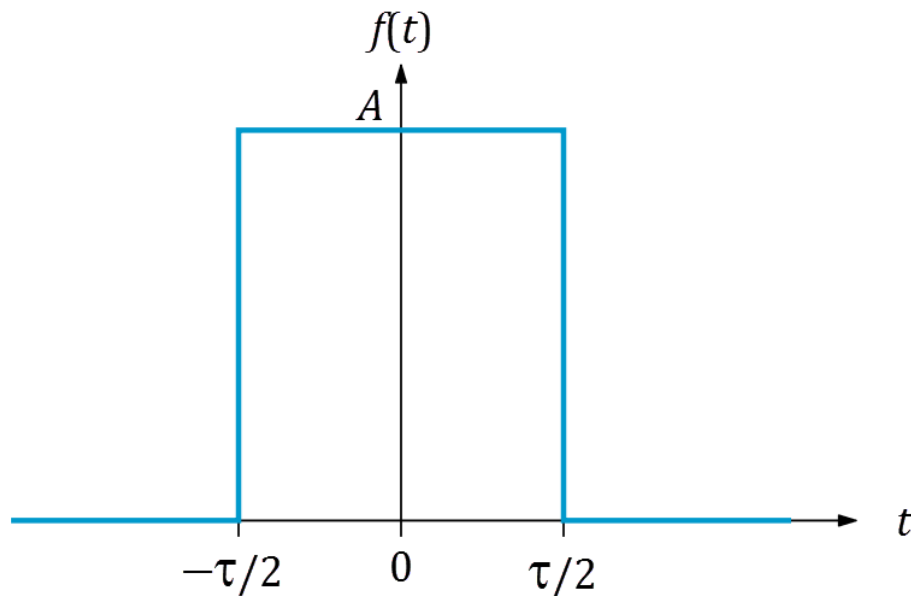

Figure 11.3: Rectangular pulse waveform for Problem 11.3
1. Determine the Fourier transform of the rectangular pulse $f(t)$ shown in Figure 11.3.
1. Create a circuit with a PULSE_VOLTAGE source. Set the “Period” to 100 ms; set the remaining parameters as needed to create the pulse shown in Figure 11.3 on the facing page with $A = 10$. Note that the pulse must shift right to begin at $t = 0$; this shift does not affect the amplitude spectrum.
- (b) Create the rectangular pulse $f(t)$ with the ELVISmx Function Generator in squarewave mode. Set the frequency to 10 Hz. Adjust the amplitude and DC offset controls to match the pulse waveform shown in Figure 11.3 on the preceding page with $A = 10$. Control the pulse width with the “Duty Cycle” control.